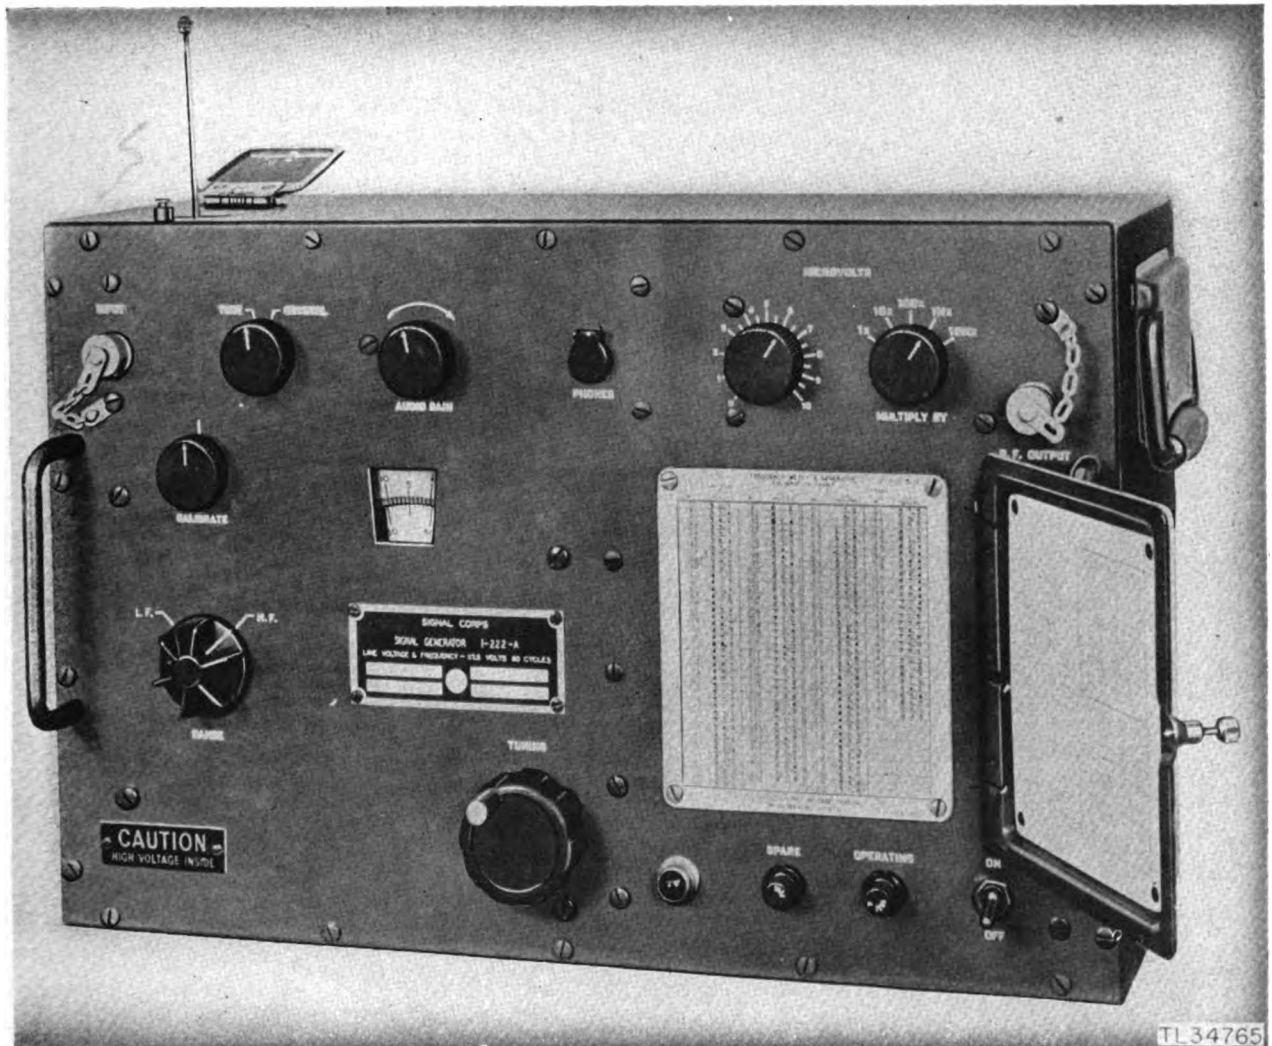

Figure 15. Signal Generator I-222-A, front panel.
b. On the panel of the Signal Generator I-222-A (fig. 15) there is an INPUT and R.F. OUTPUT connection, and a PHONES connection. The controls include RANGE, CALIBRATE, TEST-CRYSTAL, AUDIO GAIN, TUNING, MICRO-